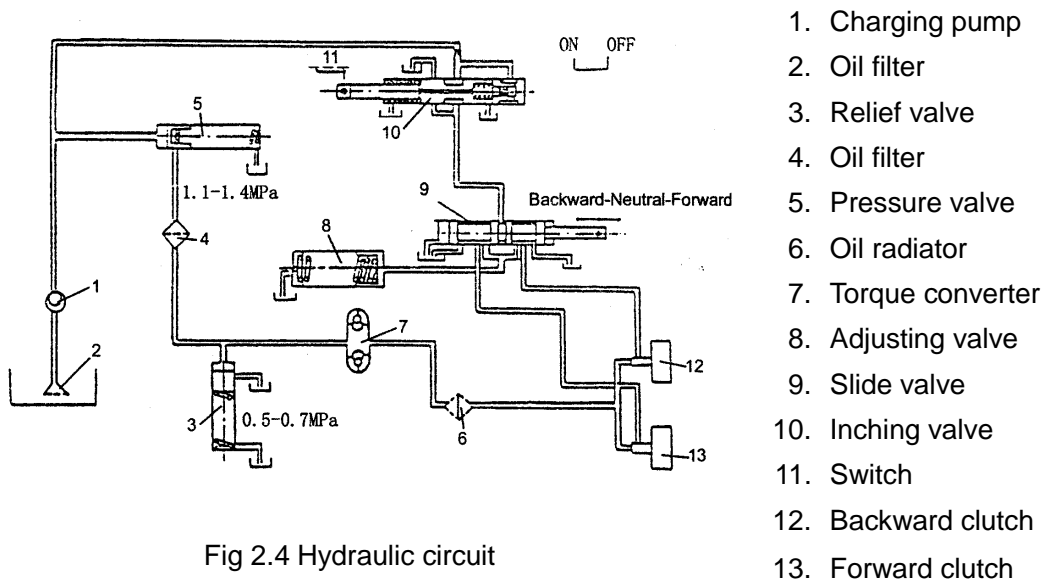

Fig 2.4 Hydraulic circuit
2.4 Hydraulic circuit (Fig 2.4)